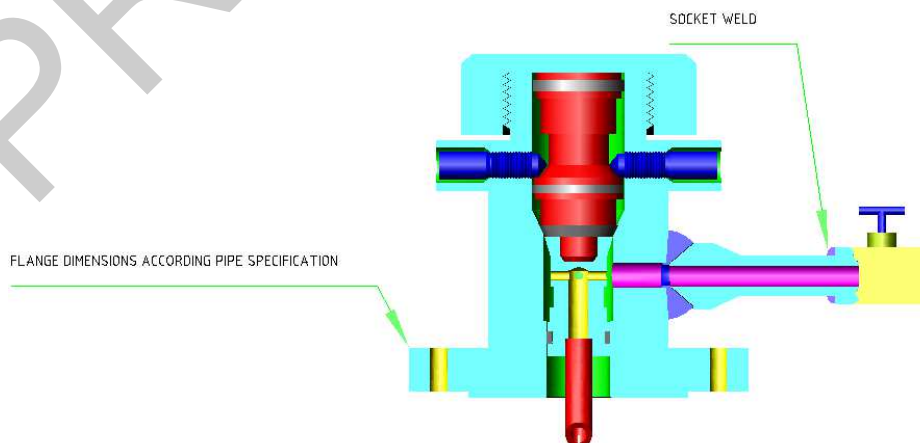

Figure 6- Access Fittings for Internal Painted Piping Systems.
- 4.3.6 Injection points of chemicals in pipes with internal coating shall be flanged according to Figure 6.